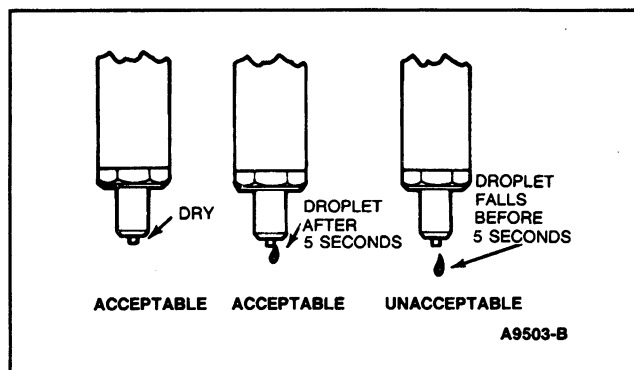

Figure 29: Nozzle Leakage Patterns
5. Check for tip leakage. Blow nozzle tip dry using filtered compressed air. Operate test pump to maintain pressure at about 1378 kPa (200 psi) below the opening pressure obtained in Test 1. Wetting of the nozzle tip is acceptable as long as a drop does not fall, within five seconds (Figure 29).